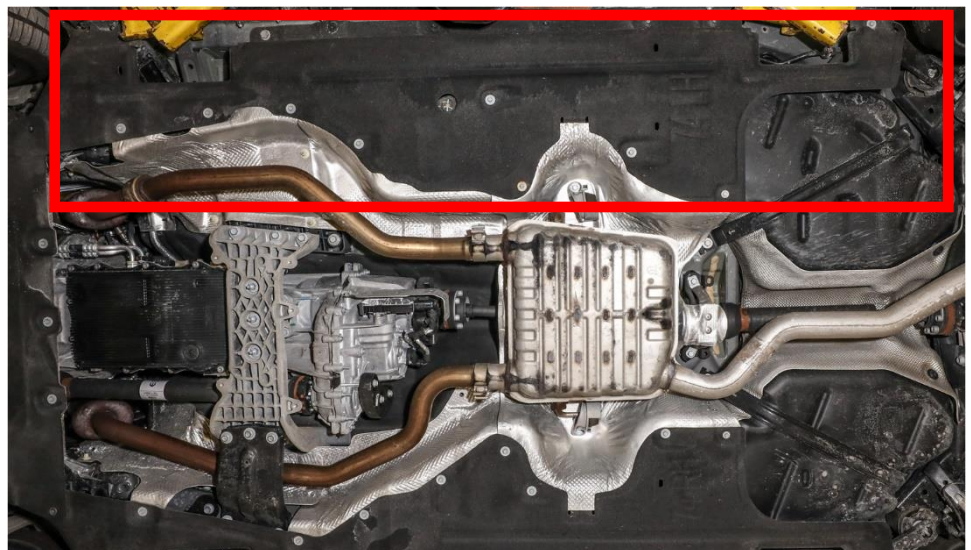

Figure 2 – Under Body
7. Remove the left side fasteners of the belly cover and remove cover (Figure 2).